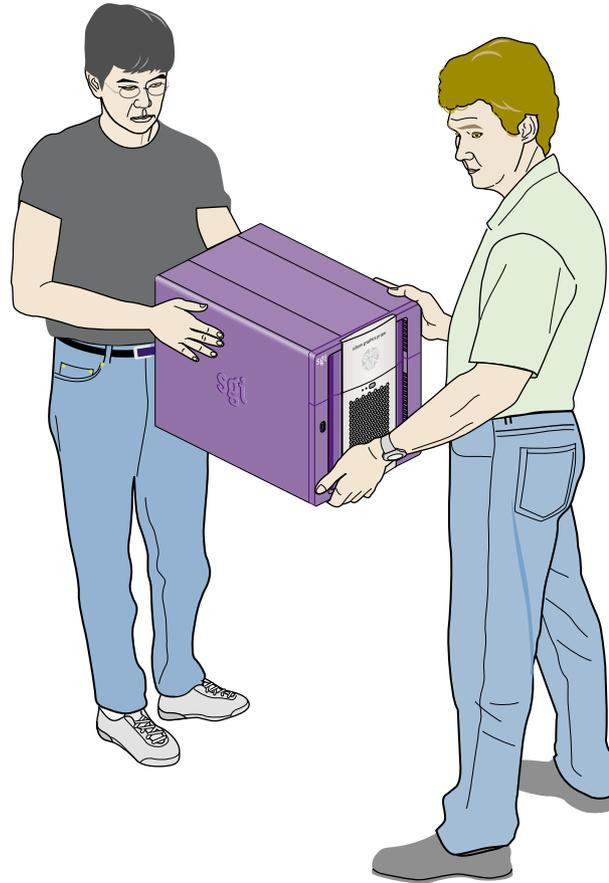

Figure 3-2 Moving the system
3. Move the system to a sturdy, flat surface. Always use two people to move the system (see Figure 3-2).